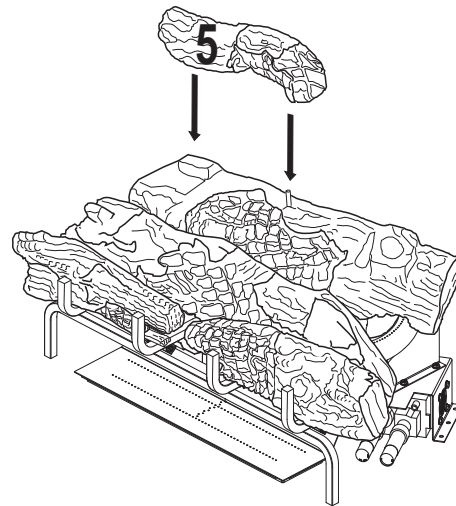

Figure 33 - Installing Log # 5
5. Place the left top back log (#5) on top of the rear log. Match the rectangular projection on top of the left side of the rear log with the rectangular hole on the bottom of the left top back log. Match the metal pin on the top of the rear log with the round hole in the bottom of the left top back log. See **Figure 33**.